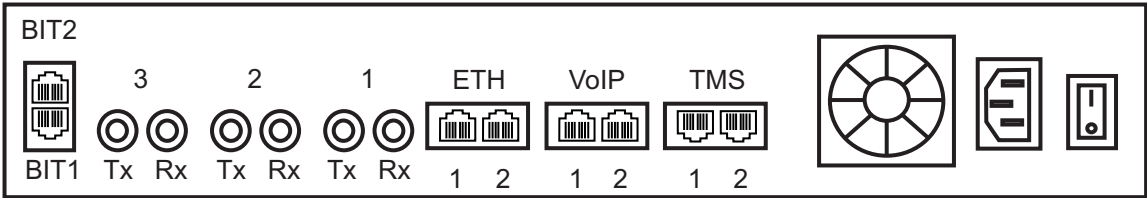

Figure 2.7 DS3 Interface to the PSTN
A TMG5800 with 3 sets of BNC connectors enables the connection to DS3 lines. See figure 2.7 on page 17
- 1. Start with the Dual BNC port pair #1 (right-most) as shown in figure 2.7 on page 17. Connect one pair of BNC cables between this port and the DS3 line.